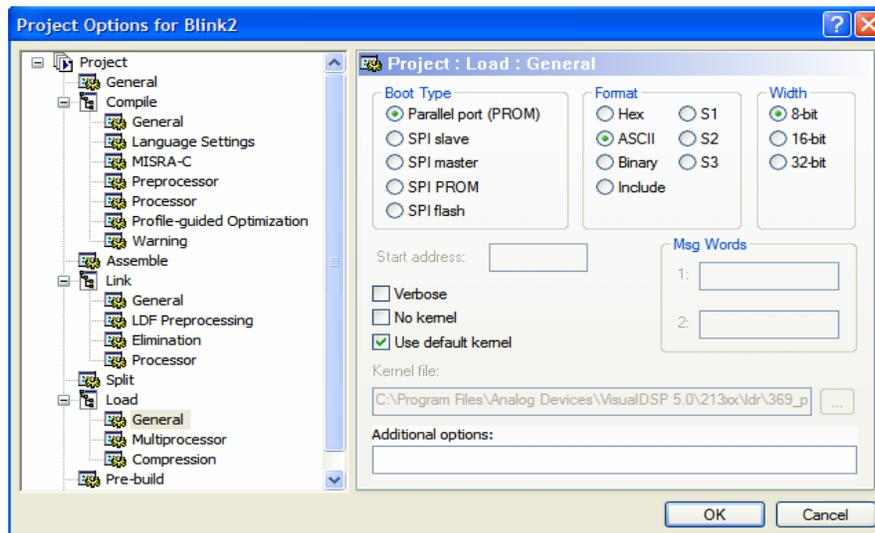

Figure 4. Loader options for “Blink2”
3. Build the project “Blink2” to generate Blink2.ldr for external port boot in ASCII format with loader options, as shown in Figure 4. This project may use default boot kernel as its boot kernel will not be used.